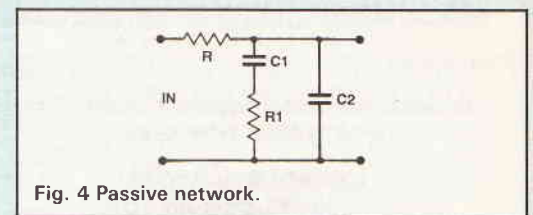
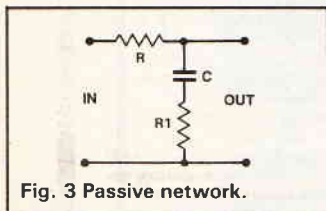
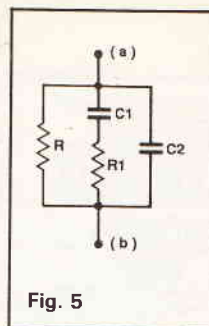
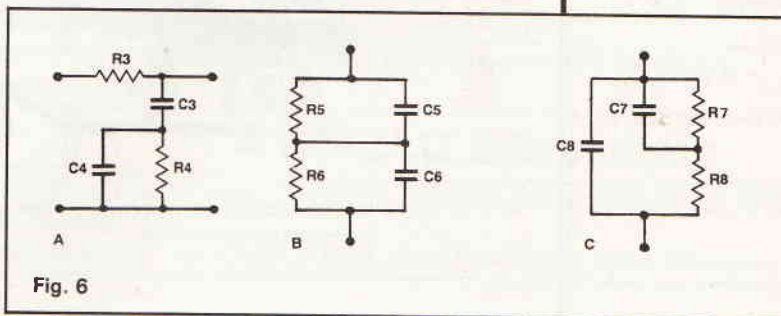

Fig. 4 Passive network.
Fig. 3 Passive network.
Fig. 5
Fig. 6
As a preliminary, consider a passive network to accommodate t_3 and t_2 as Figure 3. The Gain is
Now consider a network to suit all three time constants as Figure 4, similar to Figure 3 but with an extra capacitor. We must calculate from scratch and starting with the group, $R_1C_1C_2$, if we call the overall impedance 'Z', we have
Consider now the same components as Figure 4 but with resistor R repositioned as Fig 5. The overall impedance from a to b which we call Z_1 can be found
This is precisely the same as the GAIN of network Figure 4. Thus the overall impedance of network Figure 5 varies in accordance with the RIAA response
The following three networks other than that shown can be used in a RIAA equaliser (Figure 6). Firstly, it can be used as a passive attenuator shown in (A). With R_3 repositioned as in Figure 5, this network and also (B) and (C) are suitable for use in a feedback arrangement. The ultimate value of the components used, must of course be satisfactory for the circuit in which the network is used. The above ratios however are paramount.